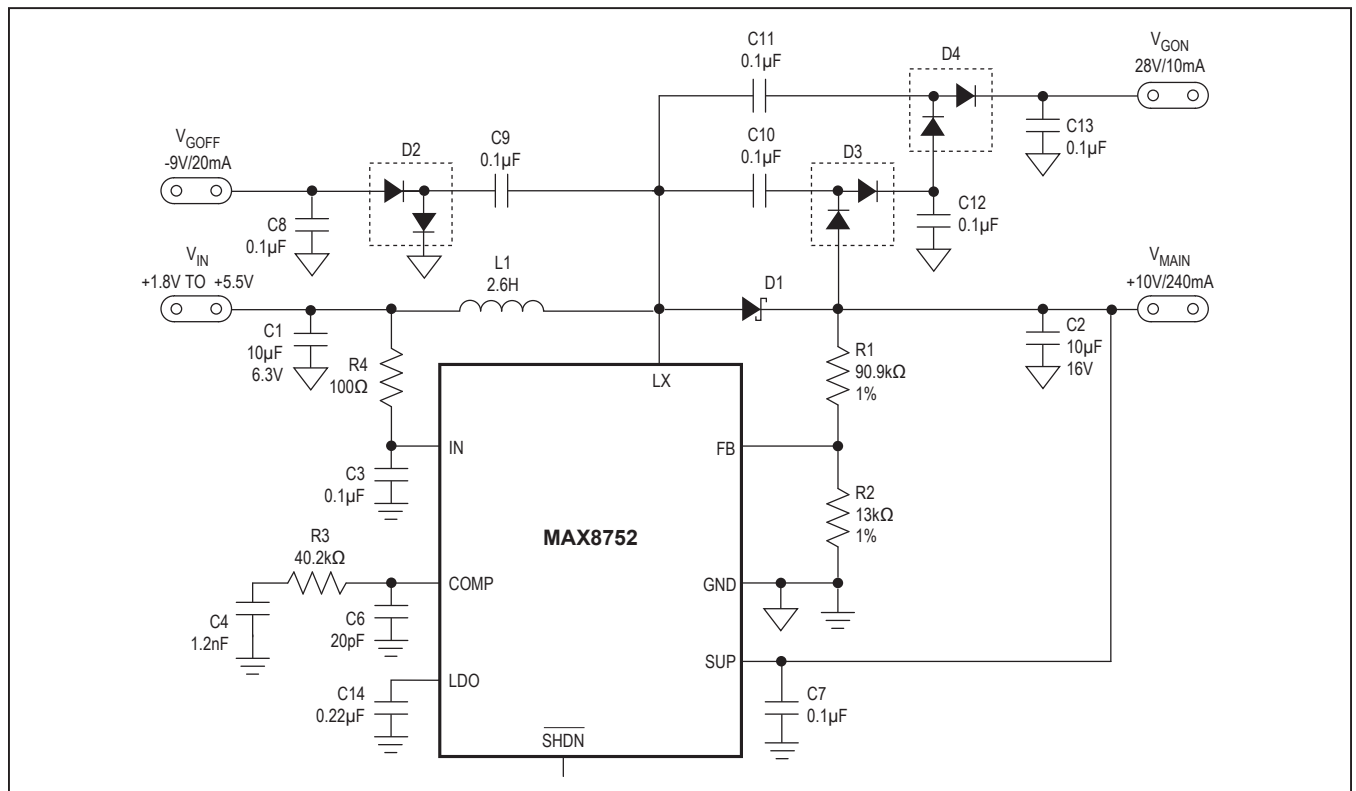

Figure 1. Typical Applications Circuit
(Circuit of Figure 1,  $V_{IN} = 2.5V$ ,  $V_{MAIN} = 10V$ ,  $T_A = +25^{\circ}C$ , unless otherwise noted.)
(Circuit of Figure 1,  $V_{IN} = 2.5V$ ,  $V_{MAIN} = 10V$ ,  $T_A = +25^\circ C$ , unless otherwise noted.)
The MAX8752 is a highly efficient, step-up power supply designed for TFT-LCD panels. The typical circuit shown in Figure 1 operates from an input voltage as low as 1.8V, and produces a MAIN output of 10V at 220mA from 2.5V input while supporting discrete diode-capacitor charge pumps that produce -9V at 20mA and +28V at 10mA. If the charge-pump outputs are not required, the diodes and capacitors associated with them may be eliminated and the main output increased to 270mA.
In Figure 1, the LCD's gate-on and gate-off voltages are generated from two unregulated charge pumps driven by the step-up regulator's LX node. The additional load on LX must therefore be considered in the inductance calculation. The effective maximum output current  $I_{\text{MAIN(EFF)}}$  becomes the sum of the maximum load current on the step-up regulator's output plus the contributions from the positive and negative charge pumps:
Considering the Typical Applications Circuit (Figure 1), the maximum load current ( $I_{\text{MAIN(MAX)}}$ ) is 180mA with a 10V output and a typical input voltage of 2.5V:
The input capacitor ( $C_{IN}$ ) reduces the current peaks drawn from the input supply and reduces noise injection into the IC. A 10 $\mu$ F ceramic capacitor is used in the Typical Applications Circuit (Figure 1) because of the high source impedance seen in typical lab setups. Actual applications usually have much lower source impedance since the step-up regulator often runs directly from the output of another regulated supply. Typically,  $C_{IN}$  can be reduced below the values used in the Typical Applications Circuit. Ensure a low noise supply at IN by using adequate  $C_{IN}$ . Alternatively, greater voltage variation can be tolerated on  $C_{IN}$  if IN is decoupled from  $C_{IN}$  using an RC lowpass filter (see R3 and C3 in Figure 1).
The MAX8752 operates with an adjustable output from  $V_{IN}$  to 13V. Connect a resistive voltage-divider from the output ( $V_{MAIN}$ ) to GND with the center tap connected to FB (see Figure 1). Select R2 in the 10k $\Omega$  to 50k $\Omega$  range. Calculate R1 with the following equation:
- 4) Place the SUP and LDO bypass capacitors and the IN bypass capacitors (C3 in Figure 1) if within 5mm of their respective pins. Connect their ground terminals to GND through the IC's exposed back paddle near GND (pin4).